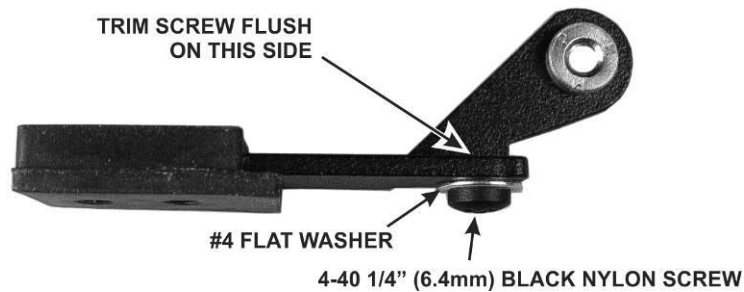

Figure 43. Placing Nylon Bumpers on the Tilt Legs.
- Install a flat washer and black nylon screw on each tilt leg as shown in Figure 43. Note the orientation of the screw as well as the rubber foot that you installed earlier. They must be as shown for the foot to work properly.